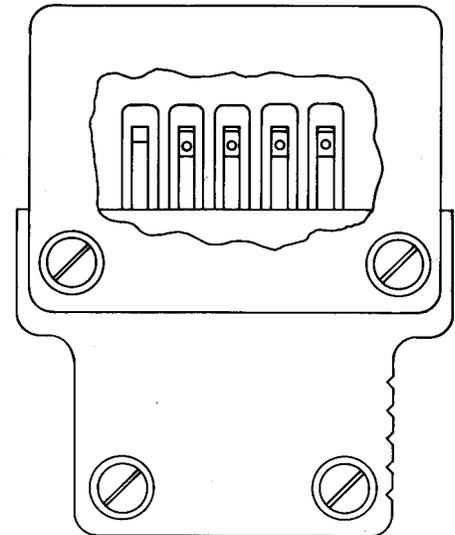

Fig. 18—470B Plug
**2.18 470B:** The 470B (Fig. 18) consists of a polarized male plug with five plastic fingers assembled in one end of a rectangular block of insulating material, equipped with a protective stainless steel shield. The other end of the block is arranged for cable engagement. Four of the fingers are arranged for solder connections on the wiring end. The 470B plug is used in D2 Channel Bank testing.